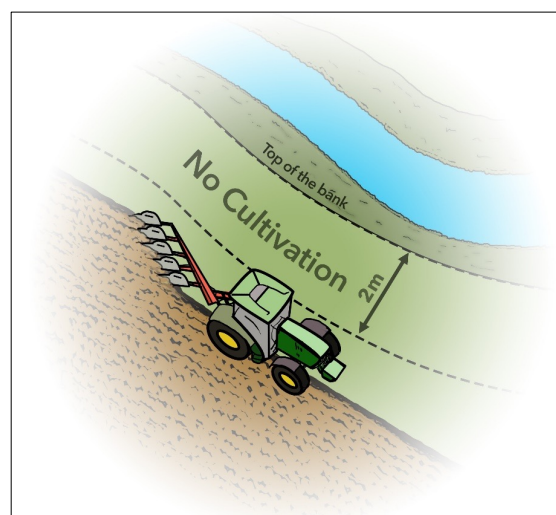

Figure 11.1. A minimum 2m buffer strip must be maintained between the watercourse and any cultivation practices.
- within 2m of any surface water, wetland or shoreline (Figure 11.1)